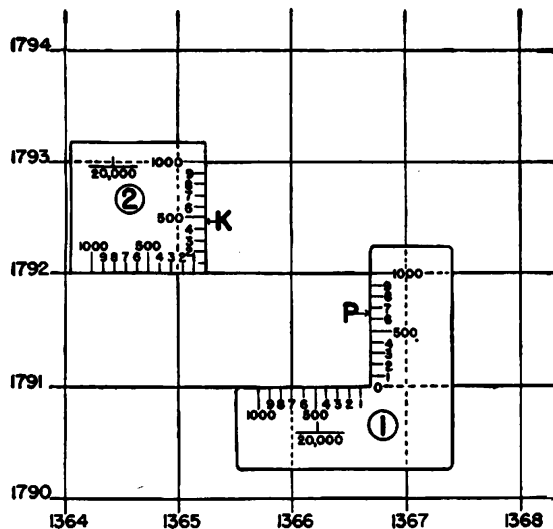

FIGURE 146.—To plot the position of a point with a coordinate scale on a terrain map (1 : 20,000 scale) having a 1,000-yard grid. (Not reproduced to scale.)
*Q.* Explain in detail how to read the coordinates of any point on a gridded map.—*A.* The coordinates of any square in the grid system are the X- and Y-coordinates of the lower left-hand (south-west) corner of the square. The coordinates of the lower left-hand square in figure 146 are (1,364,000–1,790,000) but are usually written (1364–1790), it being understood that each number represents thousands of yards. These coordinates also locate to the nearest thousand yards any point in the lower left-hand square of figure 146. To locate a point more closely, assume that each side of the square in question is divided into 10 equal parts, each of which represents 100
*Q.* What is a coordinate scale? Explain its use.—*A.* A coordinate scale is a right-angled ruler made of thin metal, celluloid, or other material with scales on it equal in length to the grid interval of the map being used (fig. 146). To plot any point on the map, for instance the point P of which the coordinates are given as (66.70–91.65), place the coordinate scale on the map in position ① as shown in figure 146. The position of P can be marked at once with a pin or sharp pencil. It should be noted here that the first two numbers of the coordinate expression (1366.70–1791.65) have been dropped because they are common to all points in the section of map under